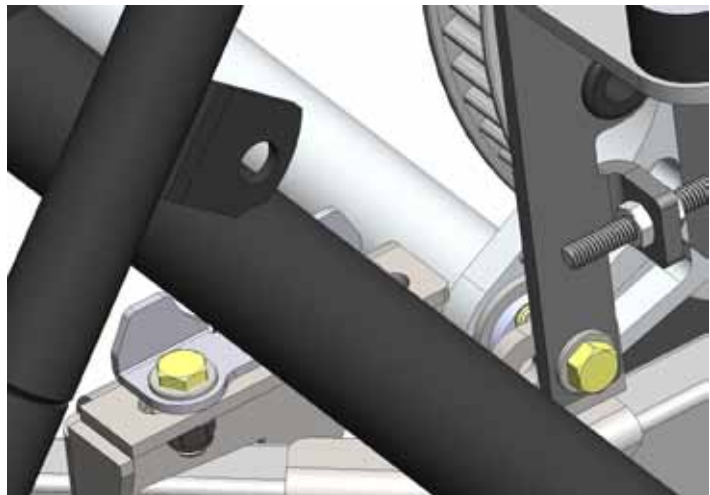

Figure 16
- Install 3/8-24x1.25 bolts, washers and nuts through Anti-roll bar housing onto front frame. Position the anti-roll bar on the frame so that the rod ends will be about vertical when attached to the control arms. Torque to 30 ft-lb. **Figure 16.**